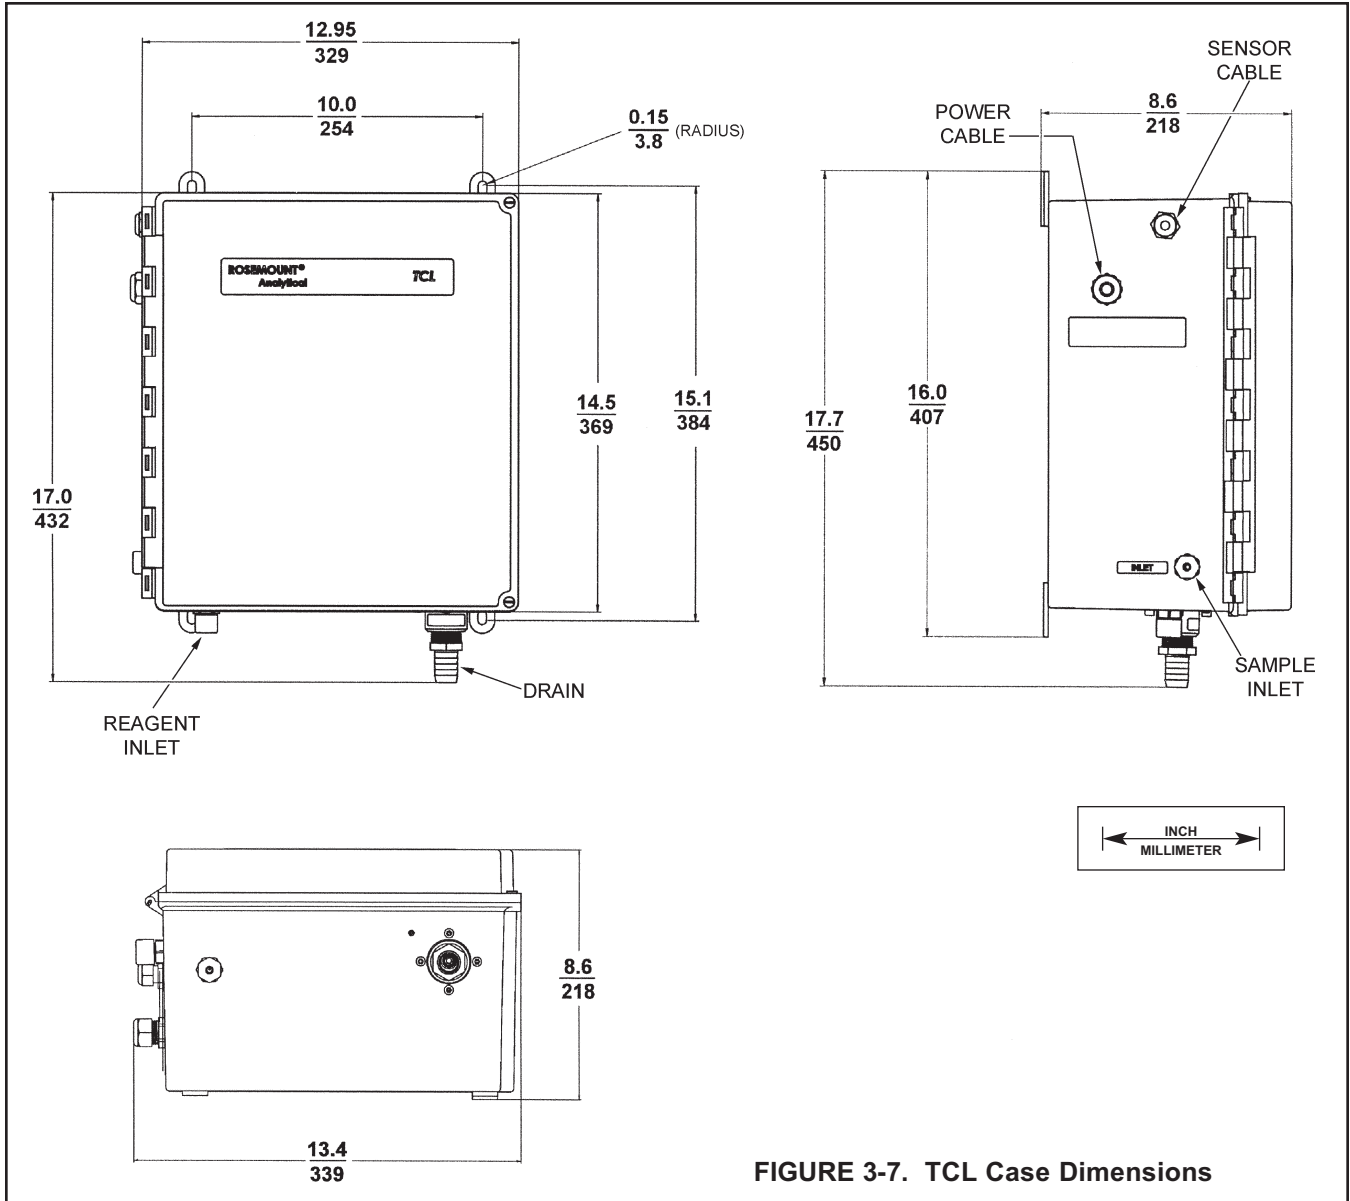

FIGURE 3-7. TCL Case Dimensions
3. Insert the power cable through the strain relief connection labeled power (see Figure 3-7). Wire the power cable to the terminal strip as shown in Figure 4-1. Do not apply 230 Vac power to a 115 Vac TCL (Model option -11). Doing so will damage the instrument.